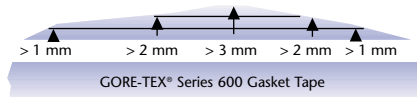

Figure 5
a) Cut the overlays to the required length. The overlays should be long enough to extend about 4 cm either side of the area to be overlaid (see figure 5).
- c) The overlays are then placed in layers on the original gasket, the number of layers depending on the size of the flange irregularities (see figure 5).